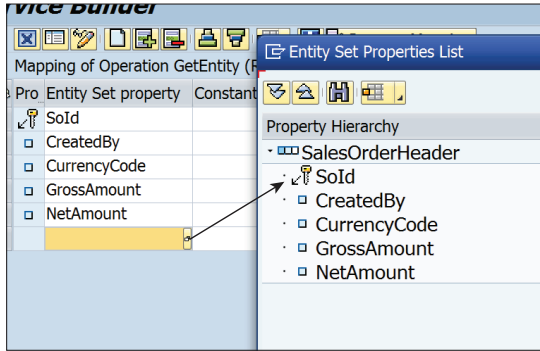

Figure 19.122 Create New Field
- Click the CREATE icon to add a new row. Use the `[F4]` help in the row to select the field from the list, as shown in Figure 19.122.